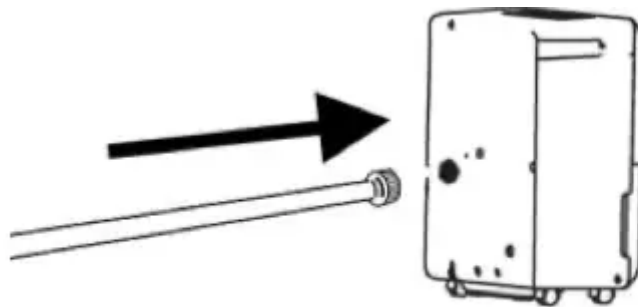

Fig.12
7. Attach the 20" continuous/gravity drain hose. Make sure the hose is securely fastened to prevent leakage (See Fig.12).